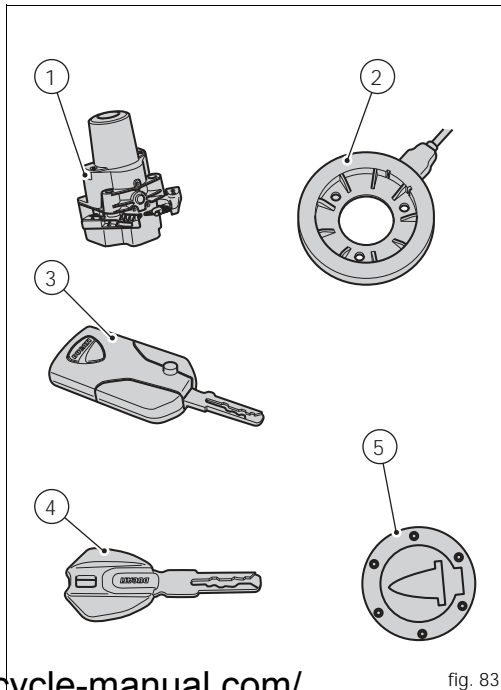
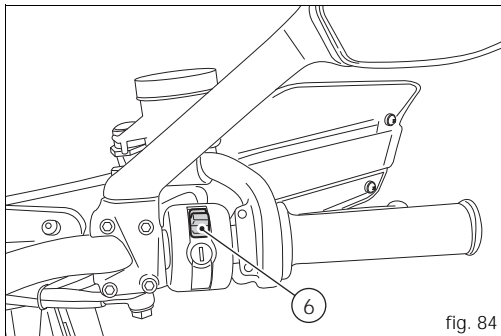

fig. 83
fig. 84
The "Hands free" lock (1, fig. 83) is located on the front of the tank. The door must be removed to access it (2).
Key-Off consists in turning off the hands free system and all electronic devices, and makes sure the engine is turned off. Key-On is done using the button (6) on the handlebar on the right switch or using the emergency button (7) on the Hands free lock (1, fig. 83).
Key-Off is done using the button (6, fig. 84) on the handlebar on the right switch or using the emergency button (7) on the Hands free lock (1, fig. 83).
Key-On can only occur in the presence of one of the two keys (3, fig. 83) or (4, fig. 83) or using the pin code.
Key-Off can also occur without a key (3, fig. 83) or (4, fig. 83).
When the battery is discharged, the active key (3, fig. 83) acts like a passive key (4, fig. 83). The instrument panel displays the discharged battery status.
A Key-On can be performed by pressing the red key (6) on the handlebar in the HANDS FREE ON/OFF position and in the presence of the active key (3, fig. 83).
The active key (3, fig. 83) has a range of approx. 1.5 m, therefore it must be located within this range.
Key-Off can be performed by pressing the red key (6) on the handlebar in the HANDS FREE ON/OFF position. It can be done also without the key (3, fig. 83) only if the motorcycle speed is equal to zero.
Key-On can be performed by pressing the button (7) on the Hands free lock (1, fig. 83) and with the presence of the active key (3, fig. 83).
Key-Off can be performed by pressing the button (7) on the Hands free lock (1, fig. 83), also without the key (3, fig. 83).
A Key-On can be performed by pressing the red button (6) on the handlebar in the HANDS FREE ON/OFF position and in the presence of the passive key (4, fig. 83).
The passive key (4, fig. 83) has a range of a few cm, therefore the key (4, fig. 83) must be positioned near the antenna (2).
Key-Off can be performed by pressing the red button (6) on the handlebar in the HANDS FREE ON/OFF position. It can be done also without the key (4, fig. 83) only if the motorcycle speed is equal to zero.
Key-On can be performed by pressing the button (7) on the Hands free lock and with the presence of the passive key (4, fig. 83).
The passive key (4, fig. 83) has a range of a few cm, therefore the key (4, fig. 83) must be positioned near the antenna.
Key-Off can be performed by pressing the button (7) on the Hands free lock (1, fig. 83), also without the key (4, fig. 83).
Key-On can be performed by pressing the button (7) on the hands free lock (1, fig. 83) without the presence of the keys (3, fig. 83) and (4, fig. 83) and entering the pin code on the dashboard.